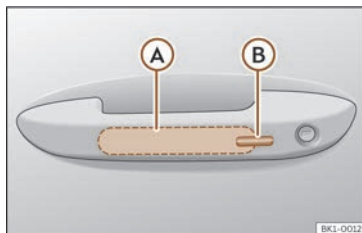

Fig. 69 Driver door lever: sensor surfaces.
>>> **Fig. 69**
- Touch the sensor surface >>> **Fig. 69** **Ⓑ** on the outside of the door handle. All turn signals flash *once*.
- Within 5 seconds, touch the sensor on the outside of the door handle >>> **Fig. 69 (B)** once. Do not grip the handle while doing so. This temporarily deactivates the Keyless Access system.
To close all the electric windows and the sunroof using the **comfort function**, keep a finger for a few seconds on the locking sensor surface >>> **Fig. 69 (B)** of the door handle until the windows and roof have closed.